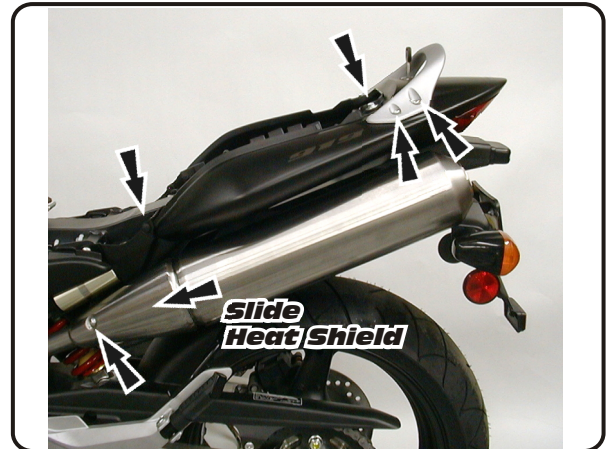

Fig. 1
- 2 Remove rear tail section: Remove plastic caps from 4 grab rail bolts, unbolt grab rail. Remove rubber caps from 2 tail mounting bolts, unbolt tail. Remove 2 plastic retaining pins from front of tail. Slide tail partially toward rear. Disconnect 2 taillight connectors, located inside to rear. Remove tail section. (See Fig. 1)
- 3 Remove stock heatshield from stock mufflers: Remove allen head cap screw and slide heat shield toward front of bike. (See Fig. 1) Make sure mounting tab heat insulators are installed inside heat shield retaining straps.